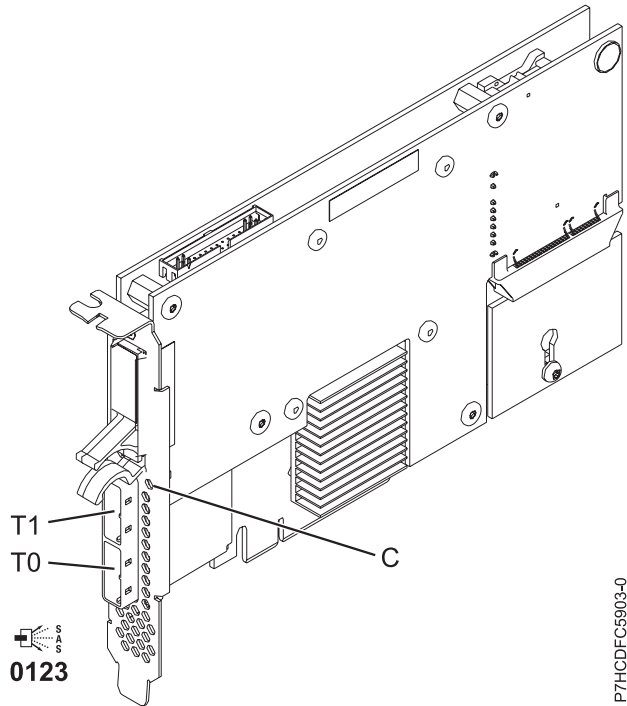

Figure 44. PCIe Dual - x4 3 Gb SAS RAID Adapter
The 5903 or 5805 contains a LED ((C) in Figure 44 on page 151) that flashes if the cache data is present. The cache-data present LED flashes when there is possible data in the cache on the adapter. If the cache data present LED is flashing, do not replace the cache battery pack. If replaced when the LED is flashing, the cache data is lost. See Figure 44 on page 151 to locate the cache-data present LED on this adapter.